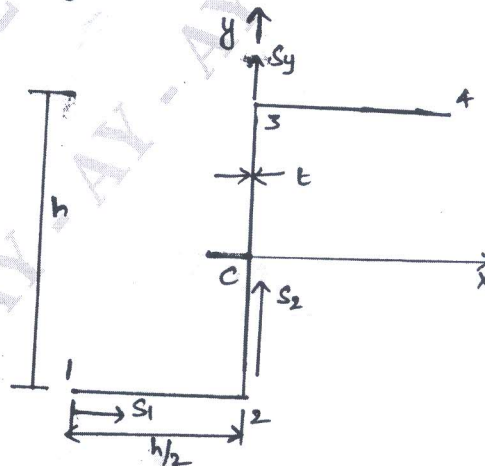

Fig Q3(a)
- a. Determine the shear flow distribution in the thin walled z-section shown in Fig Q3(a) due to the shear load S_y applied through the shear center of the section.